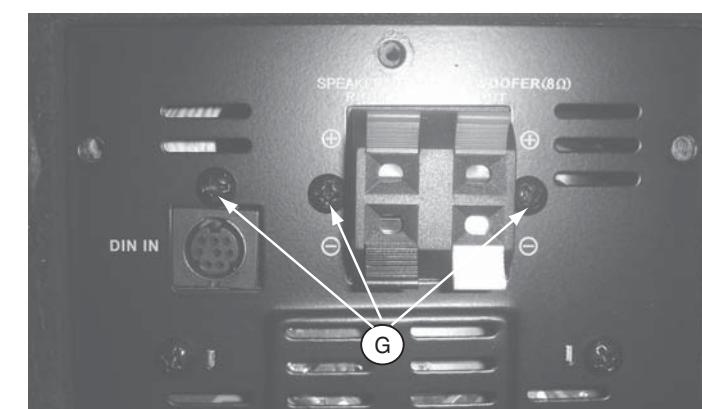

Figure 7
- 2) Loosen 3 screws " G " on the rear plate to dismantling the Amplifier board as shown in figure 7.